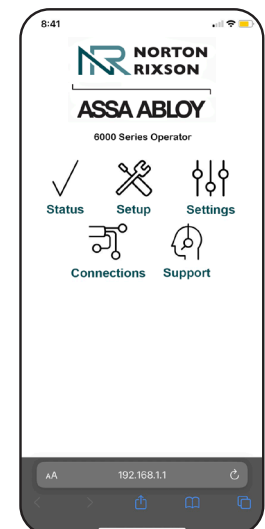

Figure 21
– The 6000 Series homepage will be displayed. (Figure 21)